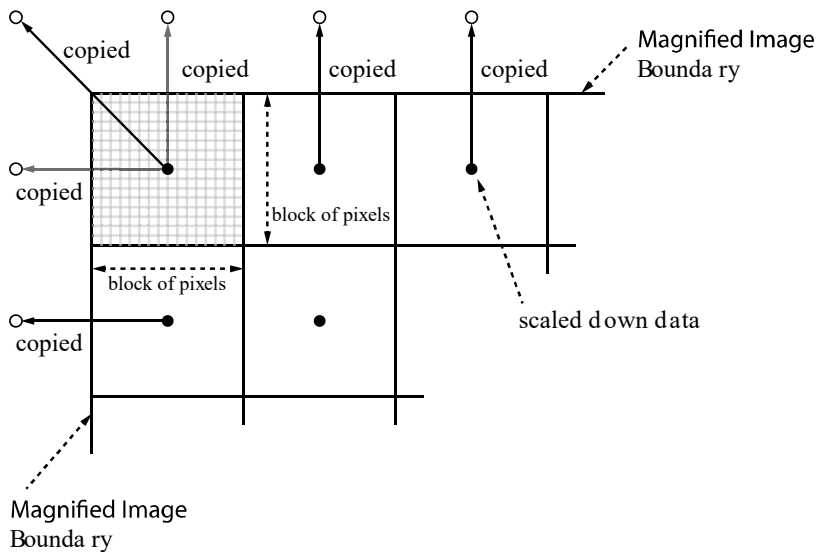

Figure 9-9 Bilinear Interpolated Magnification
3. Execute the Flat Field Data Save parameter to save the generated Flat Field data into the non-volatile memory. When the scaled down Flat Field data are used for correction, they are expanded and applied with a Bilinear Interpolation as shown in the Figure 9-9.